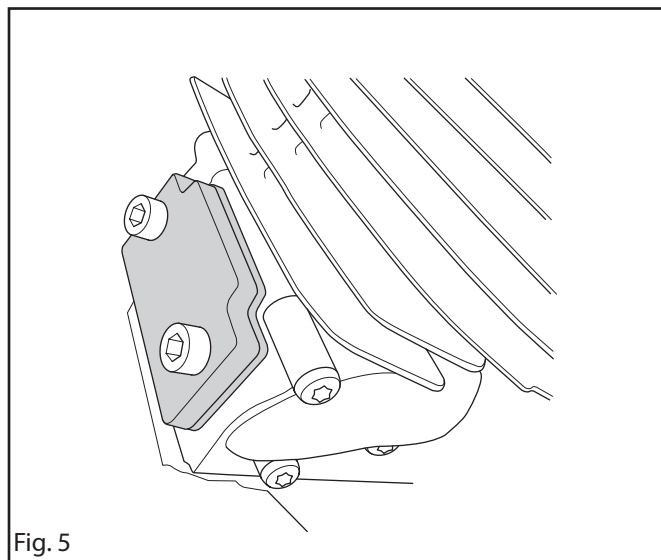

Fig. 5
2. Cover the exhaust port with tool 2a. See figure 5.